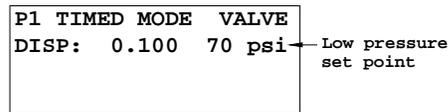

Figure 5.0
1. Press and hold Set button (3) for two seconds to enter setup screen.
3. Press both Set button (3) and (+) button simultaneously to change unit display to “bar”. Repeat this step to change unit display back to “psi”
4. Press and hold Set button (3) for two seconds to exit setup screen.
5.6 Low Pressure Alarm Set Point Change (Refer to Figure 5.0)